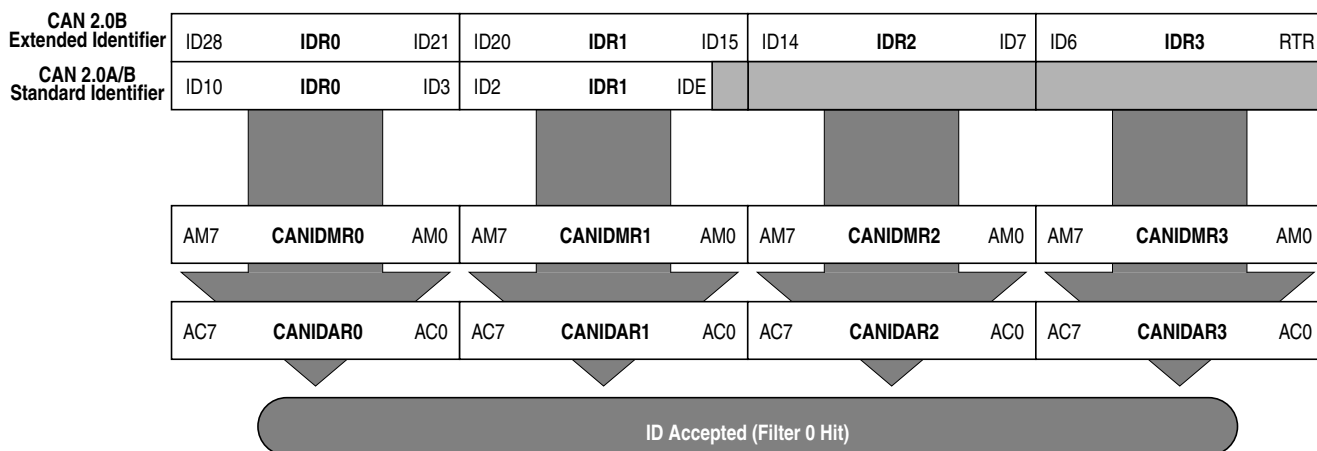

Figure 13-40. 32-bit Maskable Identifier Acceptance Filter
- The 11 bits of the standard identifier plus the RTR and IDE bits of the CAN 2.0A/B messages¹. This mode implements two filters for a full length CAN 2.0B compliant extended identifier. Figure 13-40 shows how the first 32-bit filter bank (CANIDAR0–CANIDAR3, CANIDMR0–CANIDMR3) produces a filter 0 hit. Similarly, the second filter bank (CANIDAR4–CANIDAR7, CANIDMR4–CANIDMR7) produces a filter 1 hit.